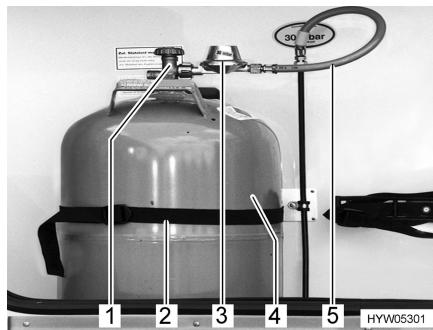

Fig. 38 Gas bottle compartment
- Close the regulator tap (Fig. 38,1) on the gas bottle (Fig. 38,4). Pay attention to the direction of the arrow.
- Unscrew the gas pressure regulator (Fig. 38,3) along with the gas tube (Fig. 38,5) from the gas bottle with a suitable gas spanner.
- Release the fixing belts (Fig. 38,2) and take out the gas bottle.